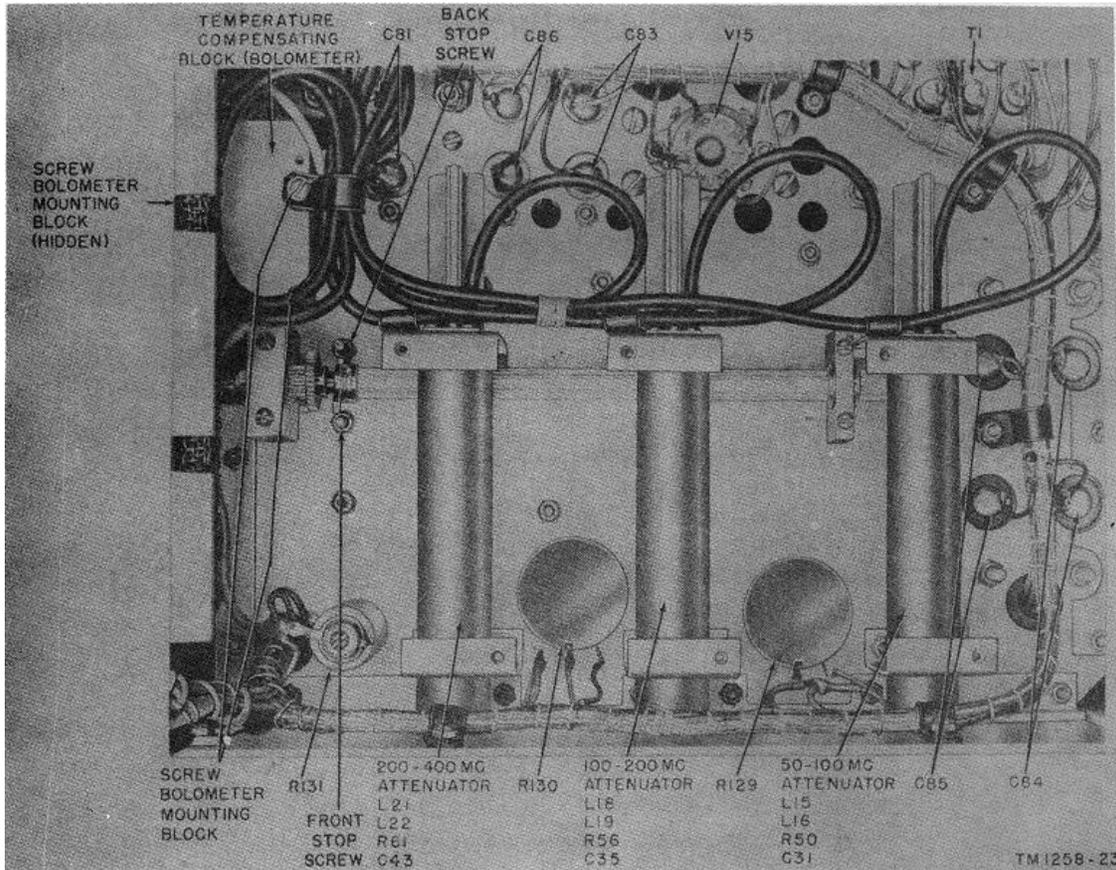

Figure 26. Signal generator, showing attenuators.
- (1) Secure the potentiometer to the mounting bracket with one nut and washer.
- (2) Solder the leads and secure the potentiometer mounting bracket to the oscillator subplate with two screws.
- (3) Replace the rf assembly as described in paragraph 61.
- a. To remove any one of the three attenuators (figs. 26 and 27), proceed as follows:
- (4) Back off the front stop screw and the back stop screw, and back out the attenuator (fig. 26).
- (1) Slide the attenuators into their respective positions (fig. 26).
- (2) Turn the front stop screw to roughly midpoint. Adjust the front stop screw and slip the gears on the attenuators until the attenuator pick-up coils approach
- (3) Swing the assembly out of the way to permit access to the bolometer mounting block.
- (4) Remove the block bottom half by removing the three screws which hold it in place (fig. 26). Unsolder and replace the component.